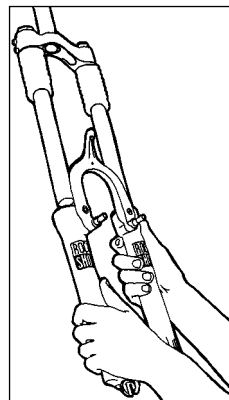

Fig. 6
4. Slide off one-piece lower tube assembly. Remove fork boots. (See Fig. 6)